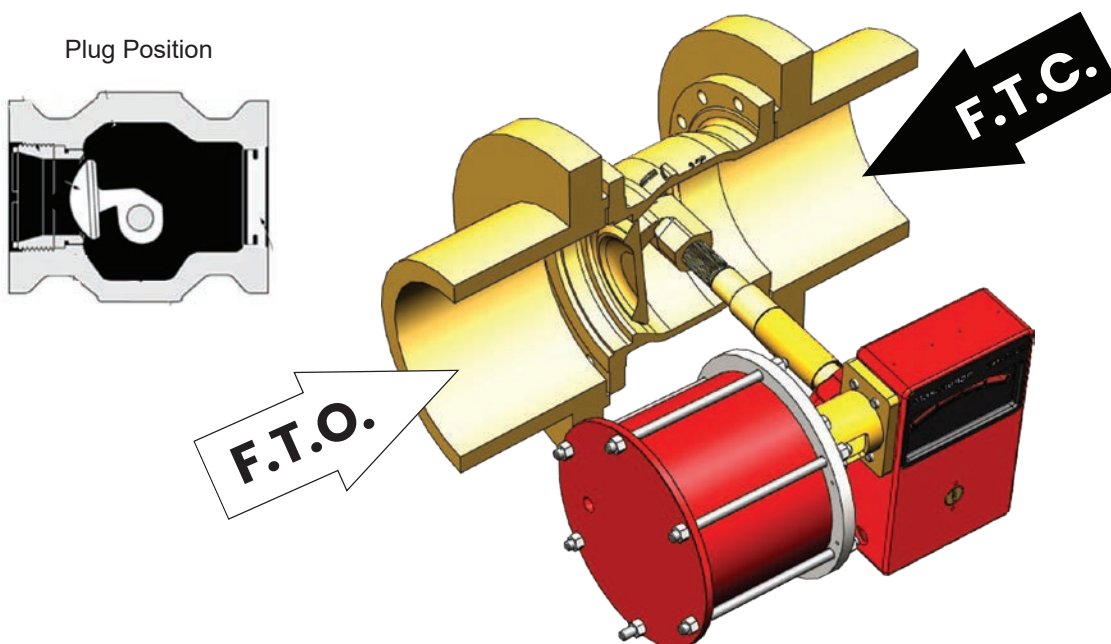

Figure 4
- H. Loosen the lever cap screw (49).
- J. Install the lift or support on the yoke (33).
- K. Loosen the body stud nut (27)
- M. Refer to Figure 4 to determine the desired mounting position of the actuator on the valve body.